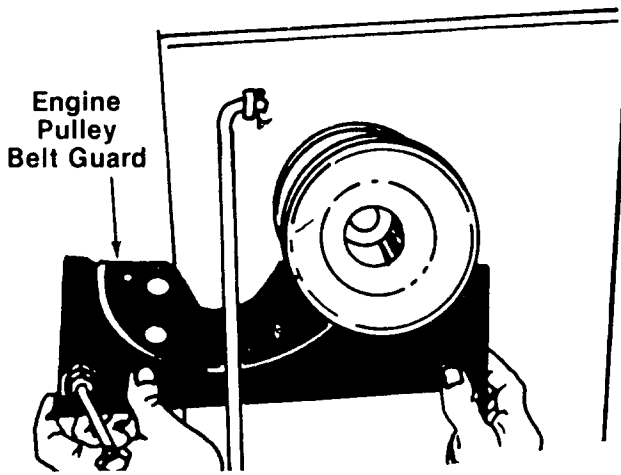

FIGURE 32
- Remove the engine pulley belt guard by slipping it back and to the right. See figure 32.